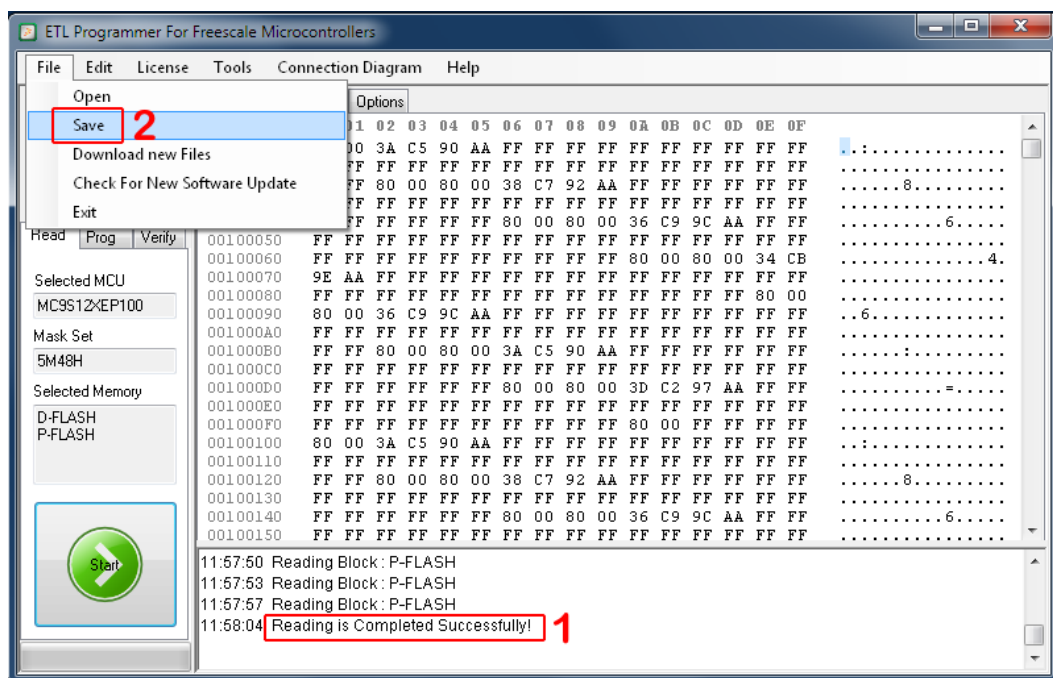

Figure 24 Save memory data (dump) to a file
- Save memory data (dump) to a file (Figure 24).